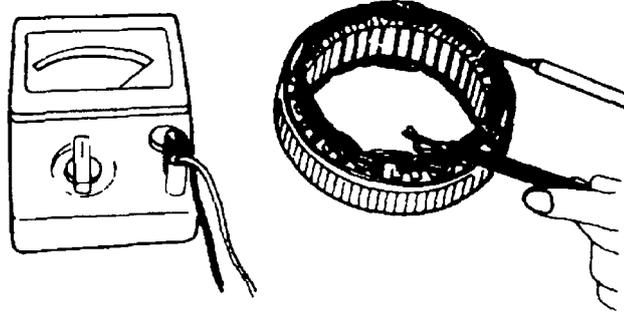

Figure 295 Stator Coil Continuity Test
- (6) Check for continuity across the stator coils (Figure 295). If continuity does not exist, replace the coil assembly.